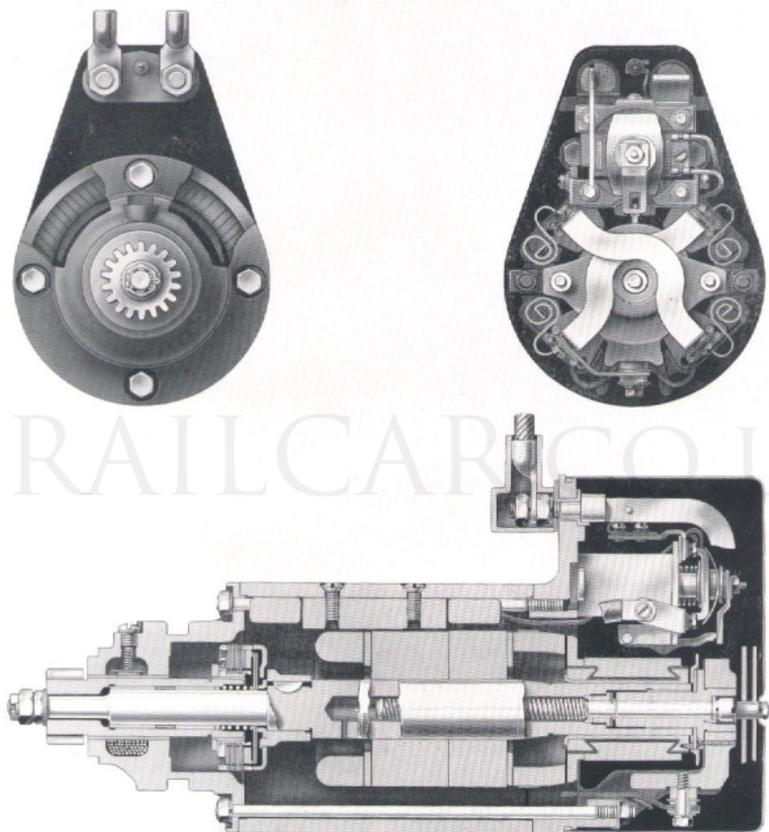

Fig. 84. The starter motor.
3. Remove lubrication screw (Fig. 84) and spring.